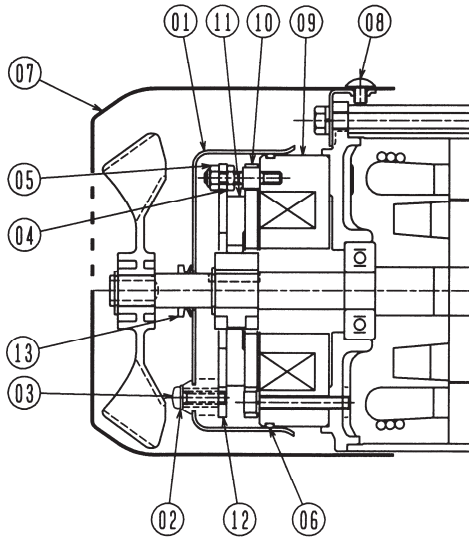

Fig.7
Fig. 7 shows the structure of the brake. The non-excitation braking method (spring-driven braking method) is used for all the models
2) Gap adjustment procedure (Refer to the structural drawing of the brake (Fig.7).